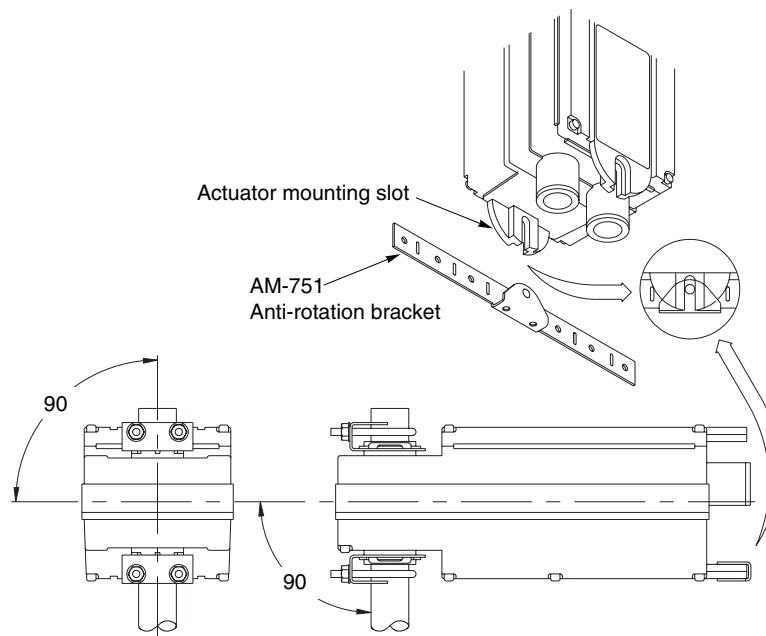

Figure-12 Mounting Anti-rotation Bracket to Actuator.
4. Align the actuator at 90° (perpendicular) to the damper shaft. See Figure-12.
5. Slide the anti-rotation bracket pin into the mounting slot on the actuator and drill mounting holes. See Figure-12. For narrow spaces the AM-752 anti-rotation bracket is recommended (order separately).
6. Assemble the damper actuator onto the universal shaft extension, allowing the extension to slide through the actuator’s universal mounting clamps. Make sure the actuator is 90° (perpendicular) to the damper shaft. Then, hand tighten the nuts on both of the actuator’s universal mounting clamps. See Figure-12.
7. Slide the anti-rotation bracket pin into the mounting slot on the actuator. See Figure-12. For narrow spaces, the AM-752 anti-rotation bracket is recommended (order separately).